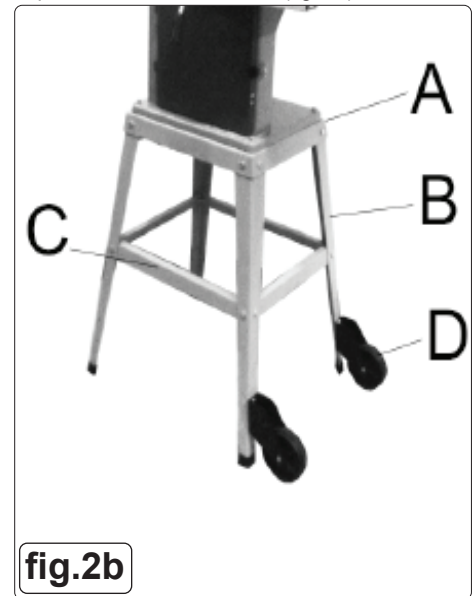

fig.2b
5.2. STAND ASSEMBLY FIG.2B
5.2.2. Bolt leg cross members (C) as shown in fig2b.